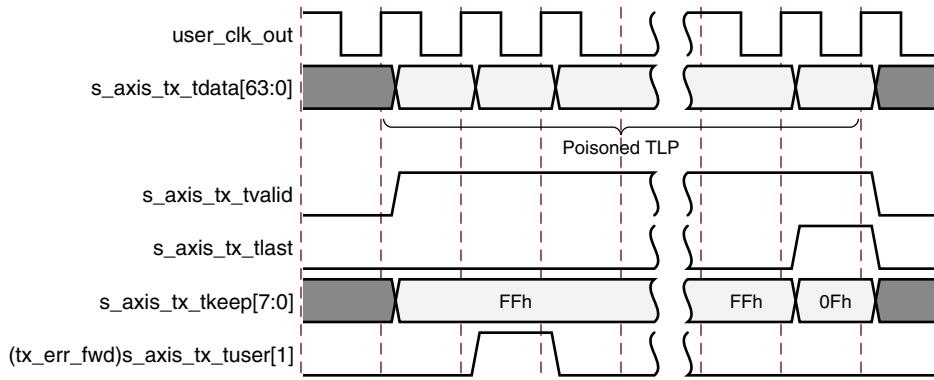

Figure 3-12: Packet Data Poisoning on the Transmit Interface
- Assert `s_axis_tx_tuser[1] (tx_err_fwd)` for at least one valid data transfer cycle any time during the packet transmission, as shown in Figure 3-12. This causes the core to set EP = 1 in the TLP header when it transmits the packet onto the PCI Express fabric. This mechanism can be used if the user application does not know whether a packet could be poisoned at the start of packet transmission. Use of `terr_fwd` is not supported for packets when `s_axis_tx_tuser[2] (tx_str)` is asserted (streamed transmit packets). In streaming mode, you can optionally discontinue the packet if it becomes corrupted. See Discontinuing Transmission of Transaction by Source, page 51 for details on discontinuing packets.